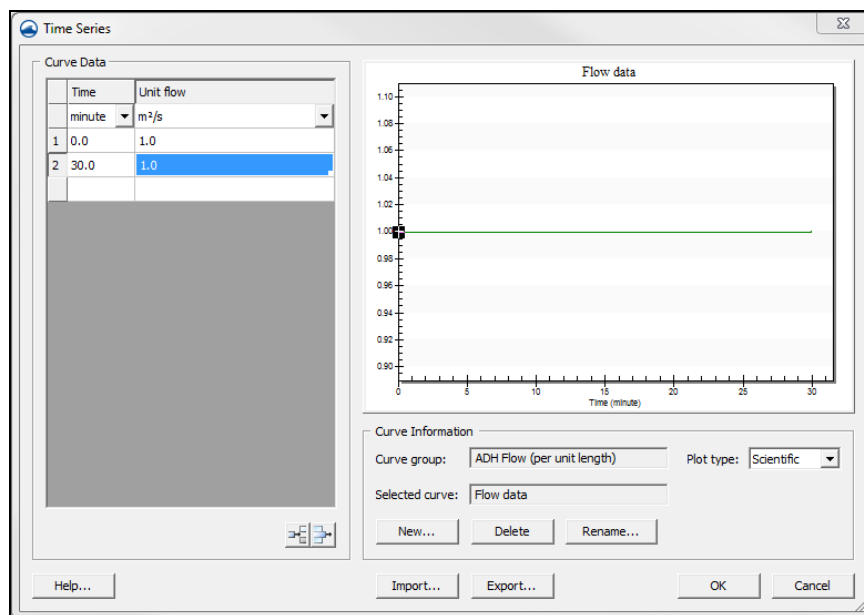

Figure 3 Time series dialog for flow data
9. Click on the large **Curve undefined** button under *Flow data* to bring up the *Time Series* dialog (Figure 3).